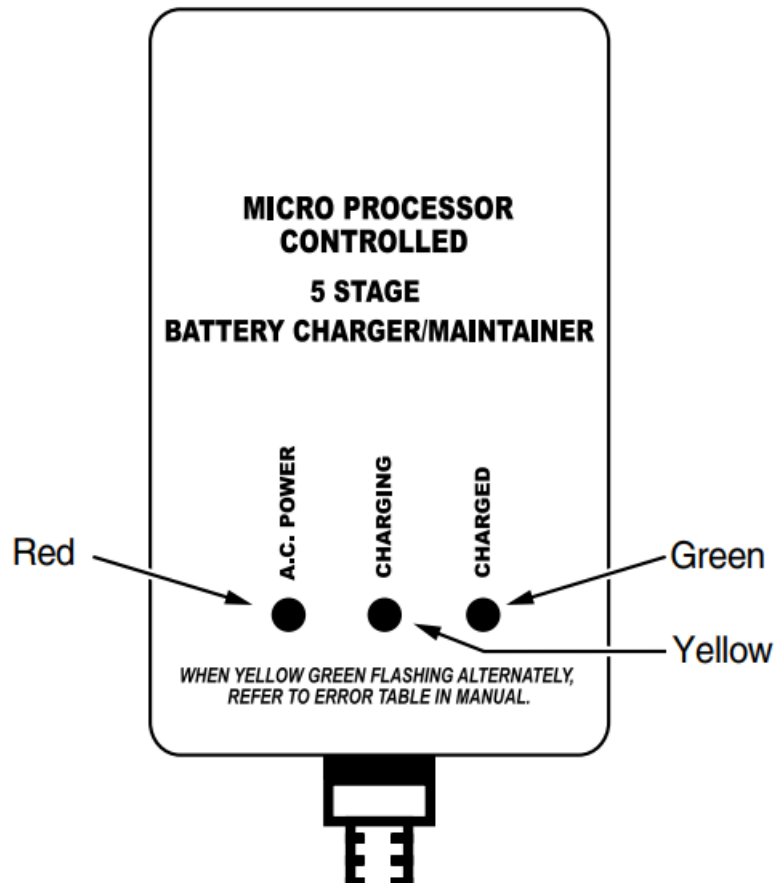

Figure 10 – FG100-A1 LED Panel
4. With the charger properly connected and plugged in the panel on the front of the charger will show one of the conditions illustrated in Figure 10.